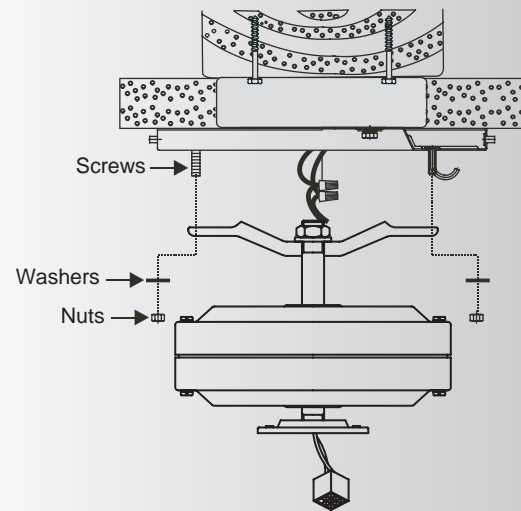

Fig. 10
Step 1. Move fan into position over the four mounting studs and secure with the provided washers and nuts. (Fig. 10)